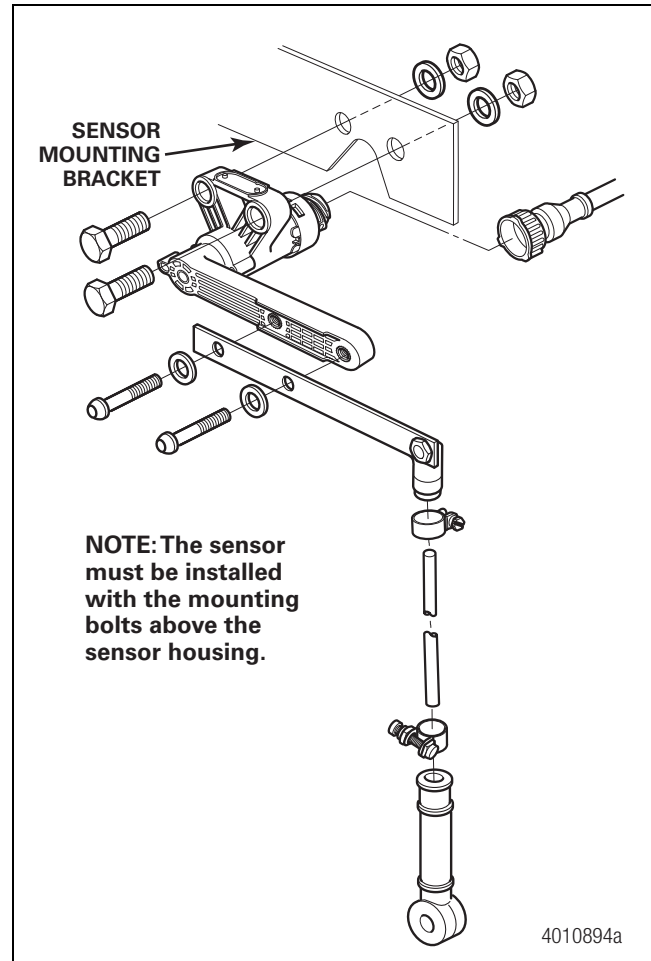

Figure 9
2. Connect the leveling valve to the drive axle of the tractor. In most cases, the existing pneumatic air valve bracket can be used to mount the electronic height sensor. Figure 9.